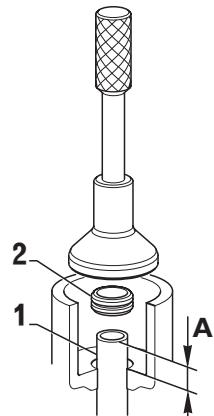

FIG. 4-2c
If the sealing ring (item 2, Fig. 4-2c) has to be replaced, proceed as follows:
- Adjust oil suction pipe to measure "A" ($A = 26$ mm) (Fig. 4-2c)